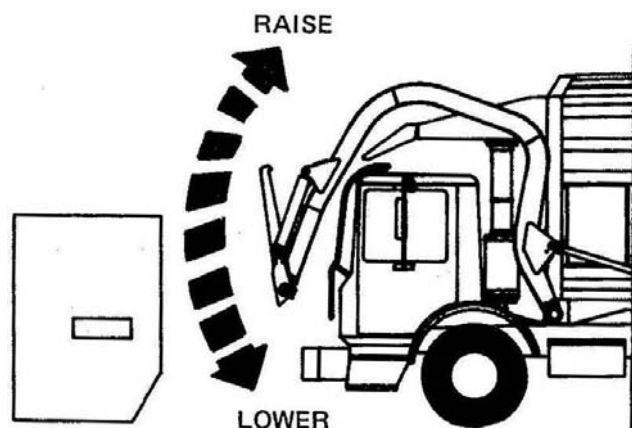

Figure 40. Lower Lift Arms
4. Use the lift arm control and LOWER the arms to the same height as the pick-up sleeves on the container then RELEASE the control. See Figure 40.